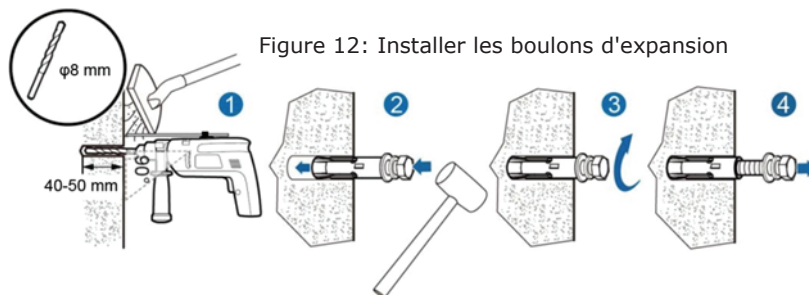

Figure 12: Installer les boulons d'expansion
(3) Fix the expansion bolts to the 4 installation holes with hammer, as shown in Figure 12.